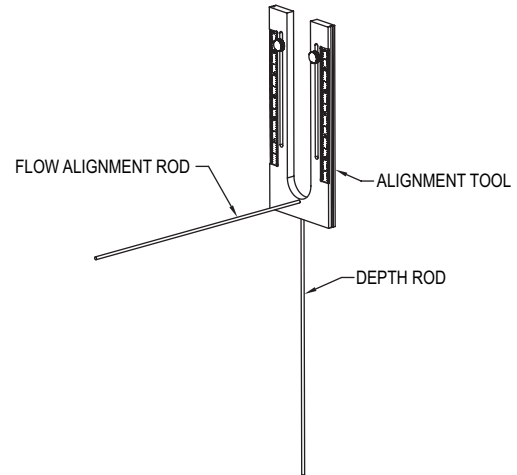

Figure 8: IEFB thermal energy meter alignment scale
Preparing the Unit for installation (Figure 8)
2. Insert the two rods into the alignment scale as shown in Figure 8.